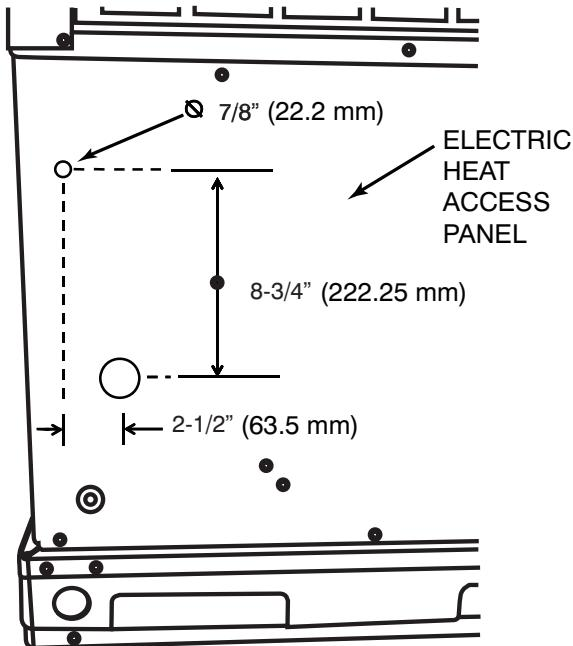
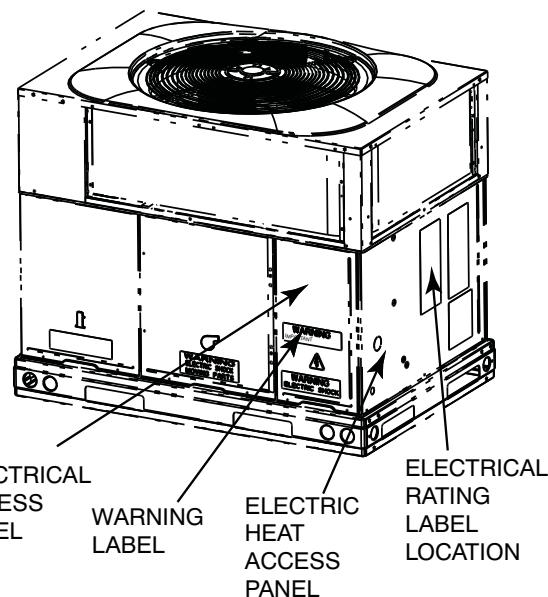

Fig. 2 - Second Power Line Access Hole Location
Fig. 3 - Panel and Label Location
2. Remove electric access panel (see Fig. 3), check to make sure there is clearance on the inside of control box above the existing high voltage knockout. Using a knockout punch and die combination, make a 7/8-in. hole on the Electrical Heat access panel for second power circuit (see Fig. 2). A knockout punch and die combination or equivalent tool is required to make this hole. Other types of drill bits or standard hole saws are not acceptable.
3. Attach warning and rating labels in the selected location (see Fig. 3).